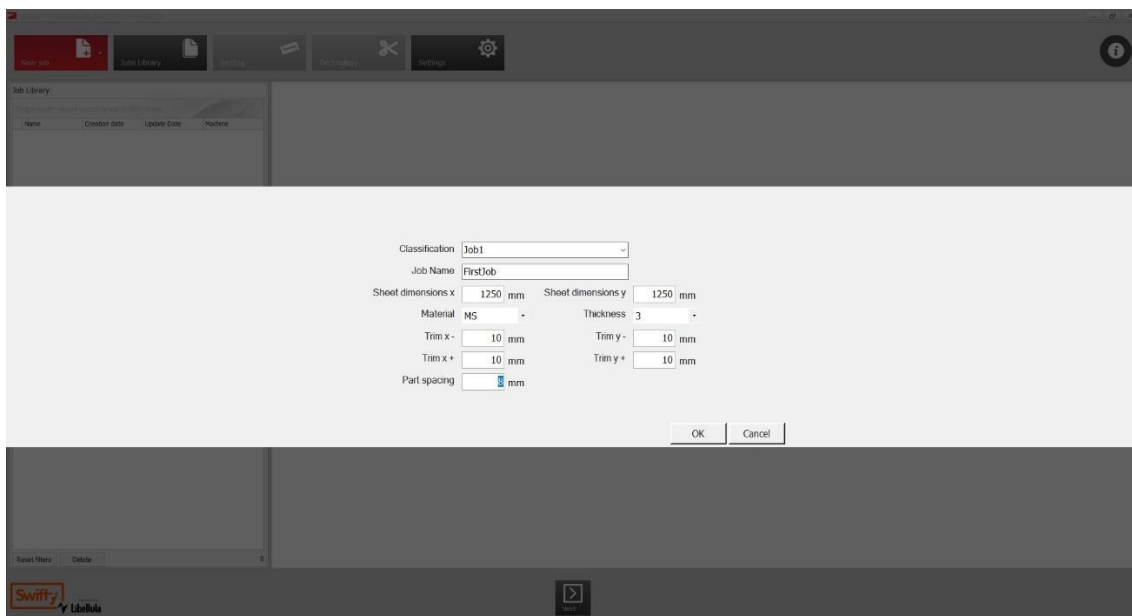

Fig 47 New job setup
2. Select the 'New job' tab. This opens the new job setup screen (Fig 47).